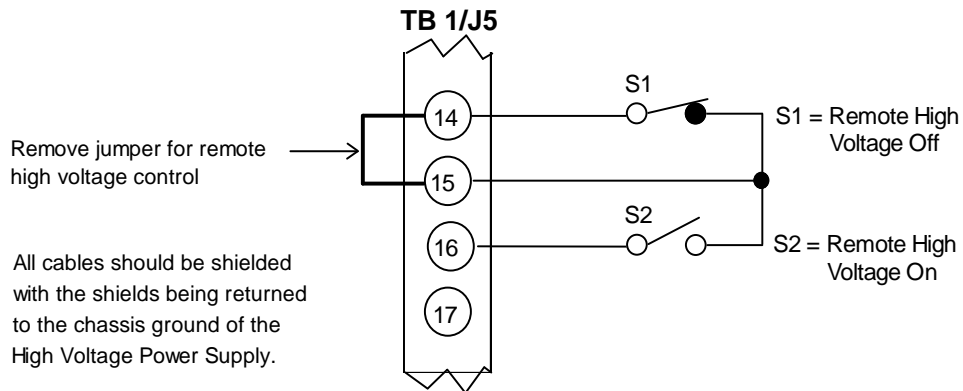

Figure 3.4 Remote Control Of High Voltage On and High Voltage Off Interface
- **REMOTE CONTROL:** Remote control of the HIGH VOLTAGE ON and HIGH VOLTAGE OFF can be accomplished via the rear panel interface. HIGH VOLTAGE OFF and HIGH VOLTAGE ON can be controlled by momentary normally closed and normally open contacts respectively. See Figure 3.4 on page 14 for the recommended interface.